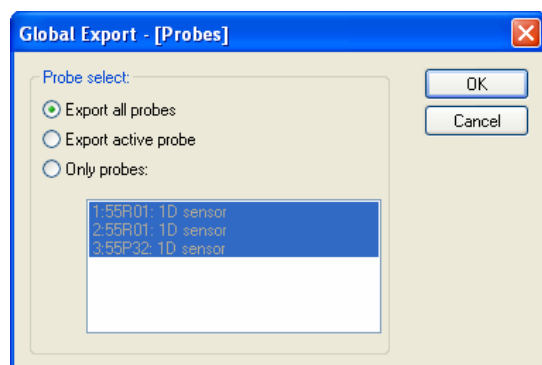

Figure 30: Global export probe selection window
10. Click on the “Probes” button. The “Global Export-Probes” window, shown in Figure 30, opens.